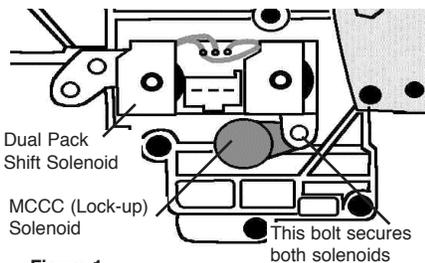
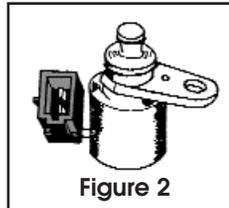

Figure 1
Figure 2
**2. To Install:** Insert the new Teckpak MCCC solenoid (Figure 2). Then, install the Dual Shift Solenoid into the valve body as shown in Figure 1. Tighten the bolts to specification. Plug the OEM harness connector into the center of the new Dual Shift solenoid, and connect the MCCC Lock-up solenoid.